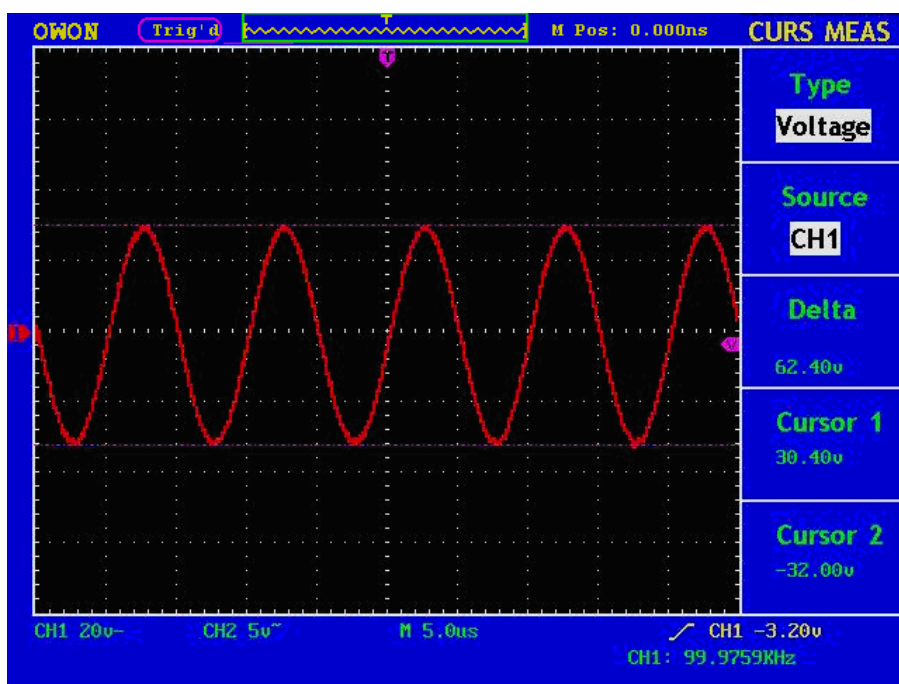

Fig.5-46 Waveform of Voltage Cursor Measurement
4. Adjust the positions of **CURSOR1** and **CURSOR2** according to the measured waveform, with the absolute value of the voltage amplitude difference between Cursor 1 and Cursor 2 displayed in the increment window. The current position of Cursor1 is displayed in the Cursor1 window and that of Cursor2 is displayed in the Cursor2 window (see **Fig.5-46**).